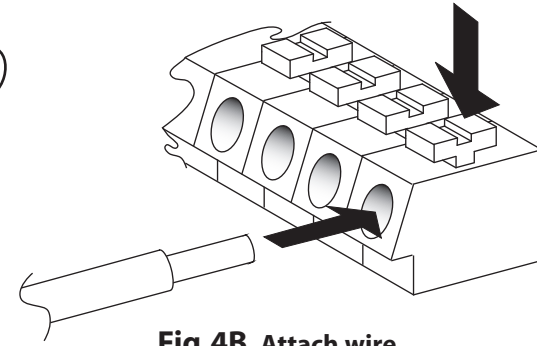

Fig.4B Attach wire
3. Insert 20AWG - 12 AWG solid or stranded wire into the connector. (Fig. 4B).